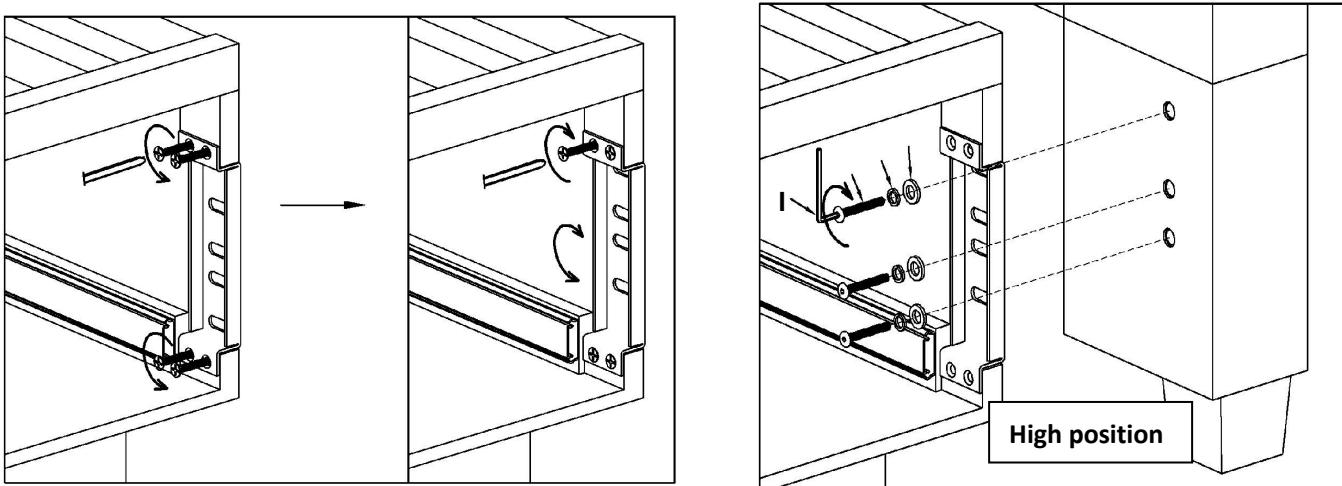

Fig. 6
10. To reverse the bracket: remove the 4 screws on the bracket using a #2 Phillips Head Screwdriver. Turn the bracket 180 degrees and replace the screws. Repeat on the other Storage Side Frame (A). See **Fig. 6**.
12. Tighten all bolts using the supplied Allen Key (I).